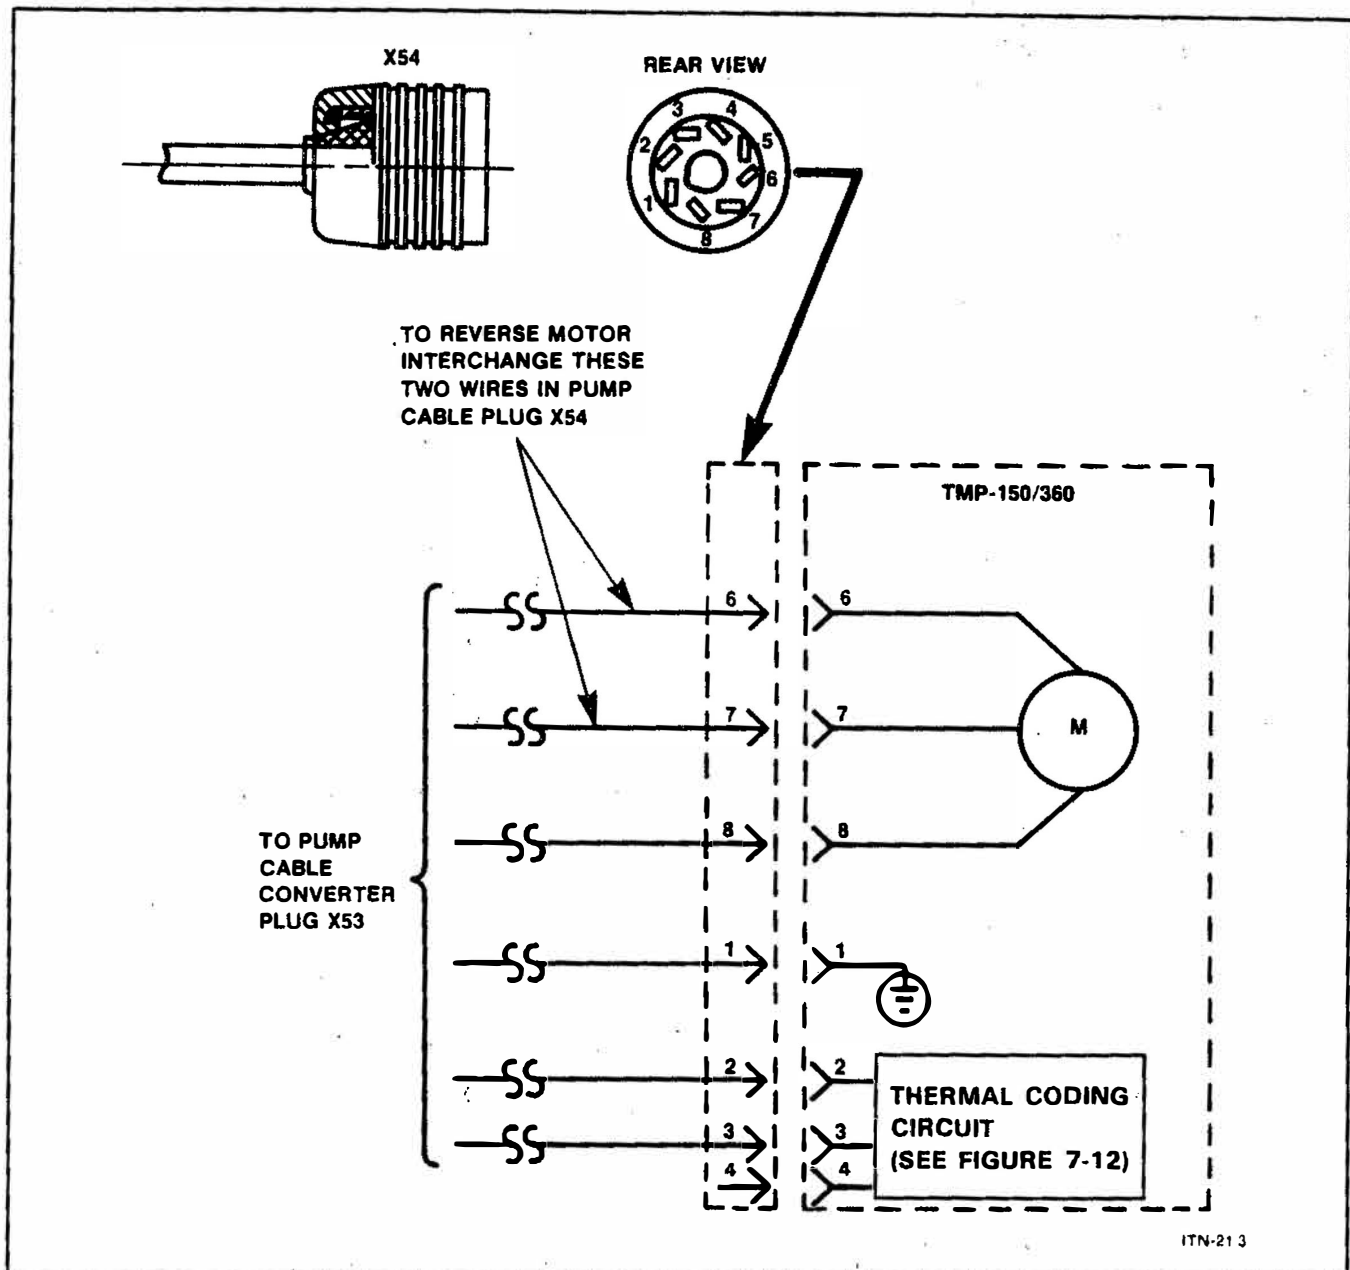

Figure 2-6. Rewiring the Pump Cable to Change the Rotation
- c. Interchange the wires connected to plug terminals 6 and 7 (see Figure 2-6).